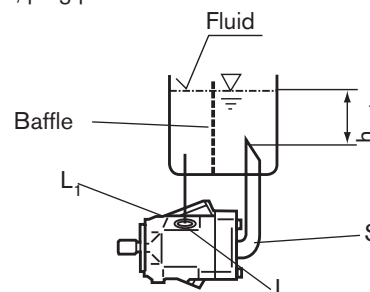

Fig. 5
b) Mounting below the reservoir: pipe ports "L₁" and "S" acc. to fig. 5, plug port "L".